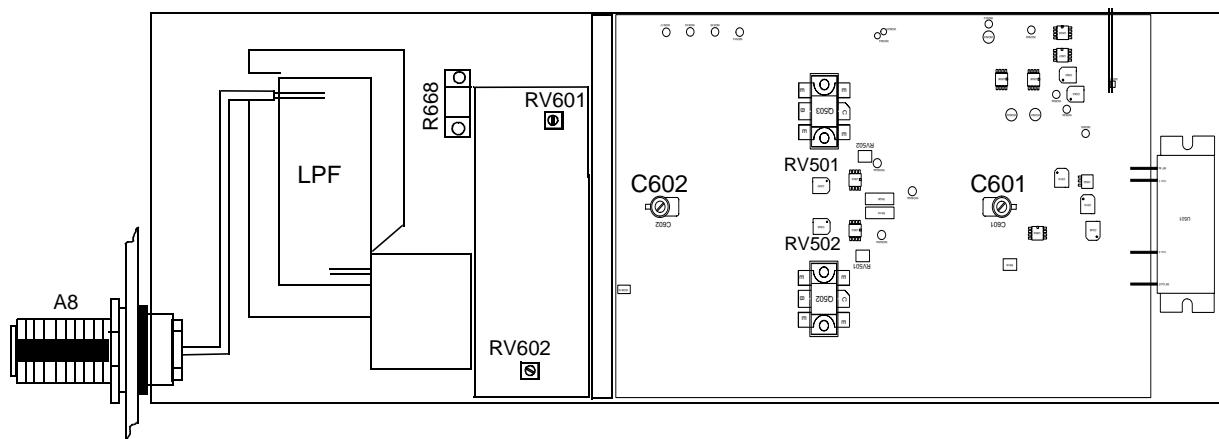
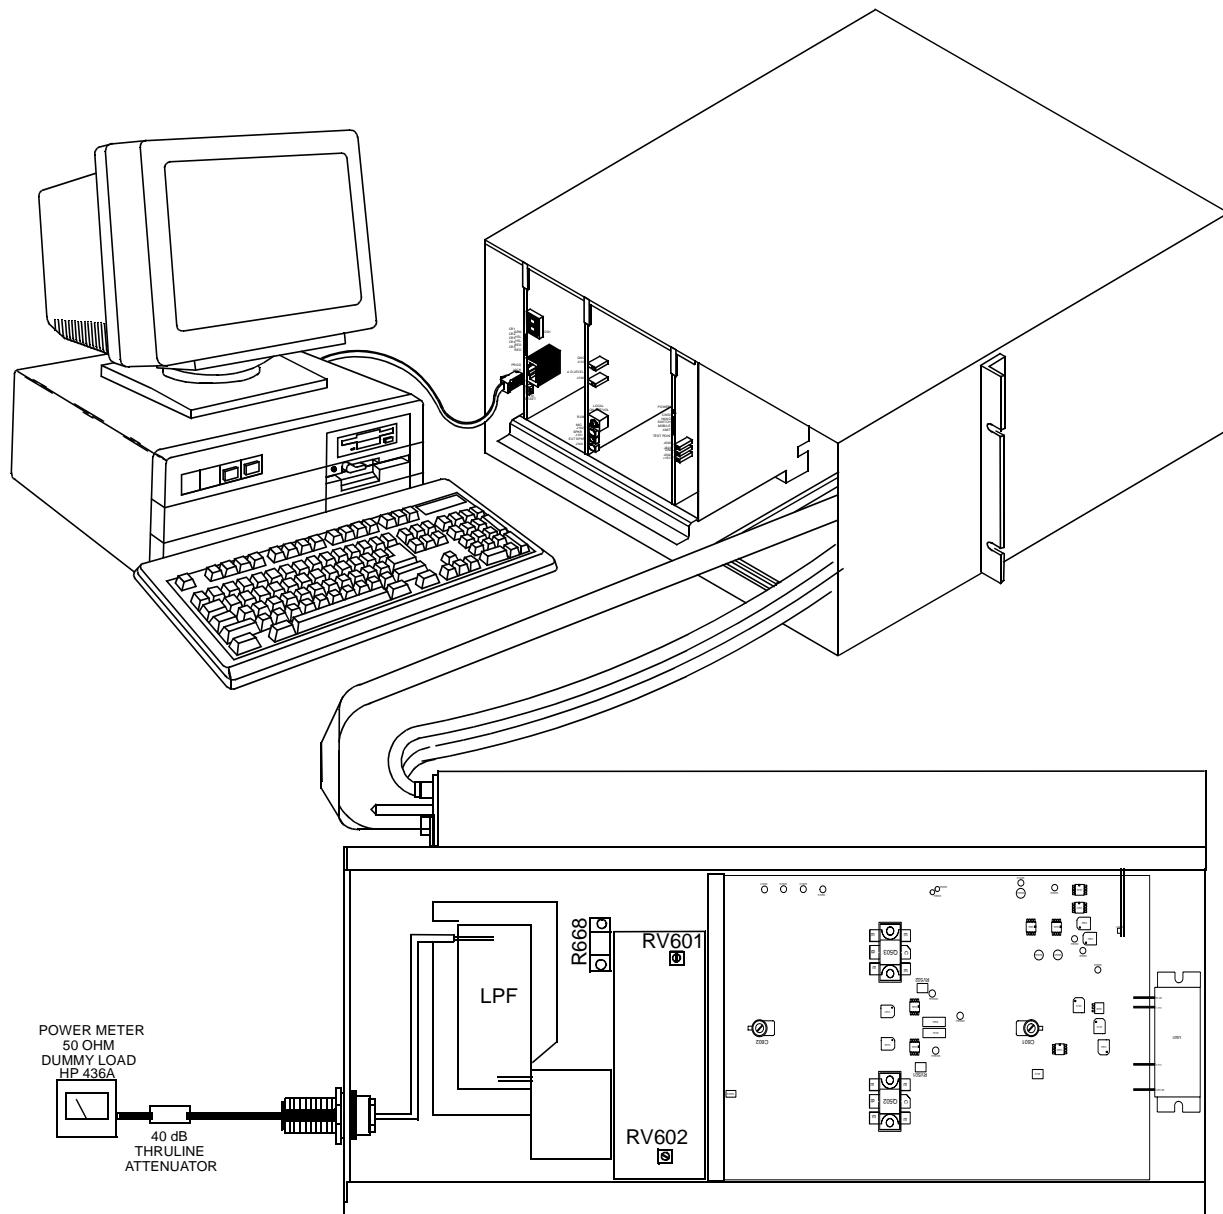

Figure 7-3 110W POWER AMPLIFIER ALIGNMENT POINTS
Figure 7-8 110W POWER AMPLIFIER TEST SETUP
Refer to Figures 7-3 and 7-4 for component locations. Refer to Figure 7-8 for equipment needed and setup diagram. Select “PA” from the “TEST” menu in the Repeater Software.
1. Set RV501 on the PA fully counterclockwise. Set RV502 on the PA fully clockwise, see Figure 7-3.
2. Set Forward Power Adjust RV601 and Reflected Power Adjust RV602 on the power detector board fully counterclockwise (see Figure 7-3).
7. Monitor the output power and tune C601 and C602 for maximum output power (see Figure 7-3).